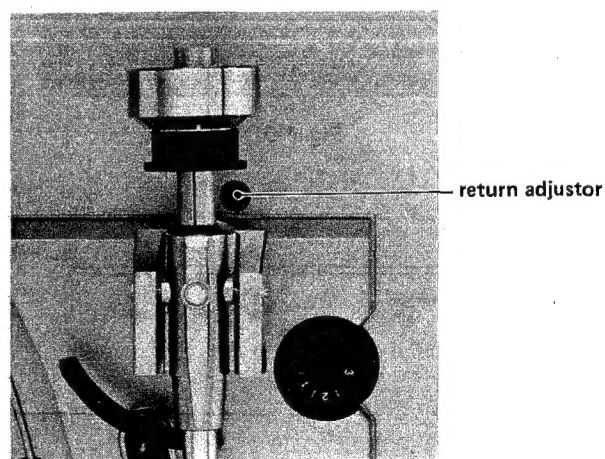

Fig. 4-7
2. If the tonearm does not automatically return to the armrest at the end of the record, or returns before the record has ended, turn the return adjustor until proper operation is obtained (refer to Fig. 4-7).